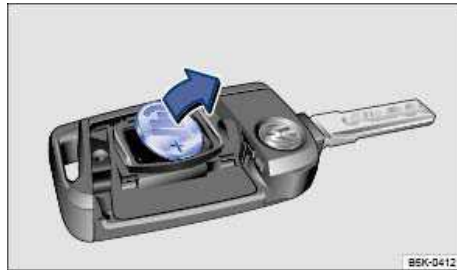

Fig. 20 Remote control vehicle key: Remove old battery.
- Use a thin object to pry the battery out of the battery compartment ⇒ fig. 20.
- Position the new battery in as shown ⇒ fig. 20 and press it into the battery compartment (opposite direction of the arrow) ⇒ !.